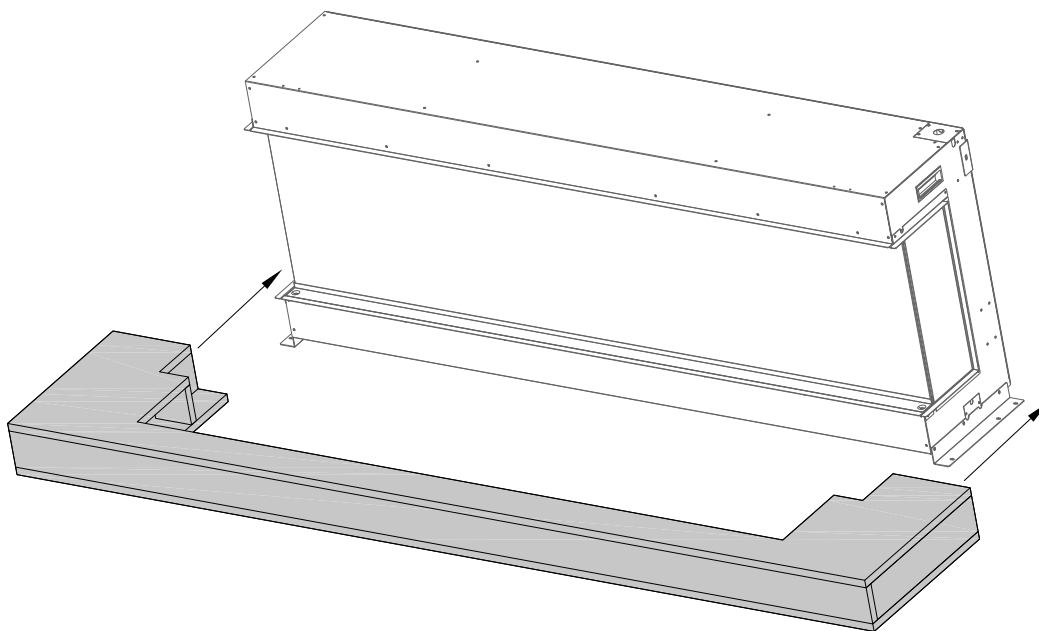

Figure 3.10 - Slide Bottom Mantel Section Above Brackets
2. Install the supplied brackets from the Floating Mantel Kit as shown in Figure 3.10 . The brackets are right and left side specific.